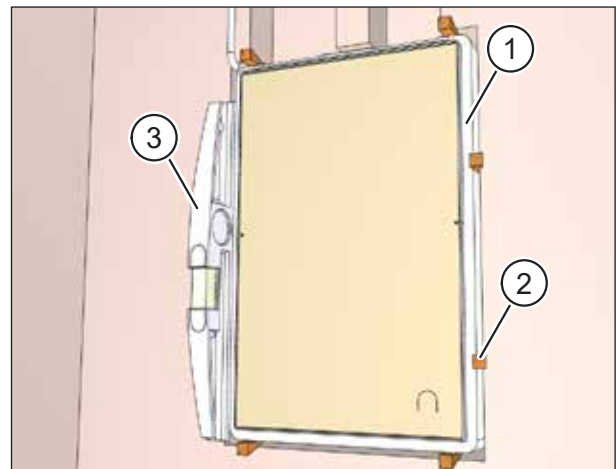

Fig. 24: Fixing the wall box
- ▶ Fix the wall box (item 1 in Fig. 24) in position in the wall breakthrough using wedges or air cushions (item 2 in Fig. 24) on both the inside and the outside.
- ▶ Use the spirit level (item 3 in Fig. 24) to align the wall box so that it is perpendicular and flush with the wall.